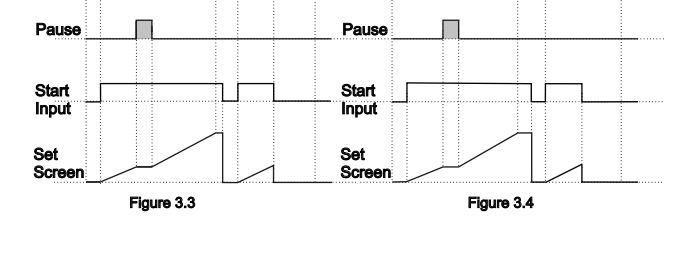

Figure 3.1 Figure 3.2 Figure 3.3 Figure 3.4
- 3.1.1 If Downcount **dEc**=1 and **outf** is **on** the control diagram is shown in Figure 3.1